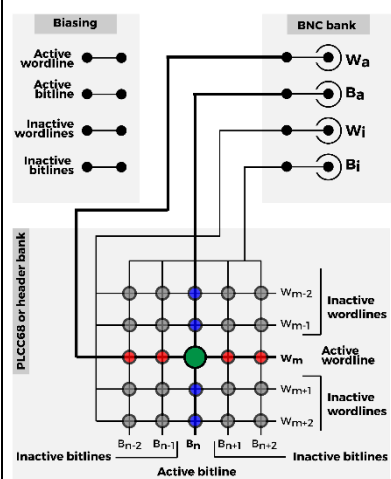

Figure 5.3. Live: BNC to Local session mode board connectivity
3. **Live: BNC to Local** - in this operating regime the instrument's biasing circuitry is disabled and all voltage/current biasing to target devices is provided through the BNC terminals (Figure 5.3). The ArC® platform only performs routing, i.e. directs bias voltages/currents from the BNCs to the selected device (in PLCC68 package or via header banks).